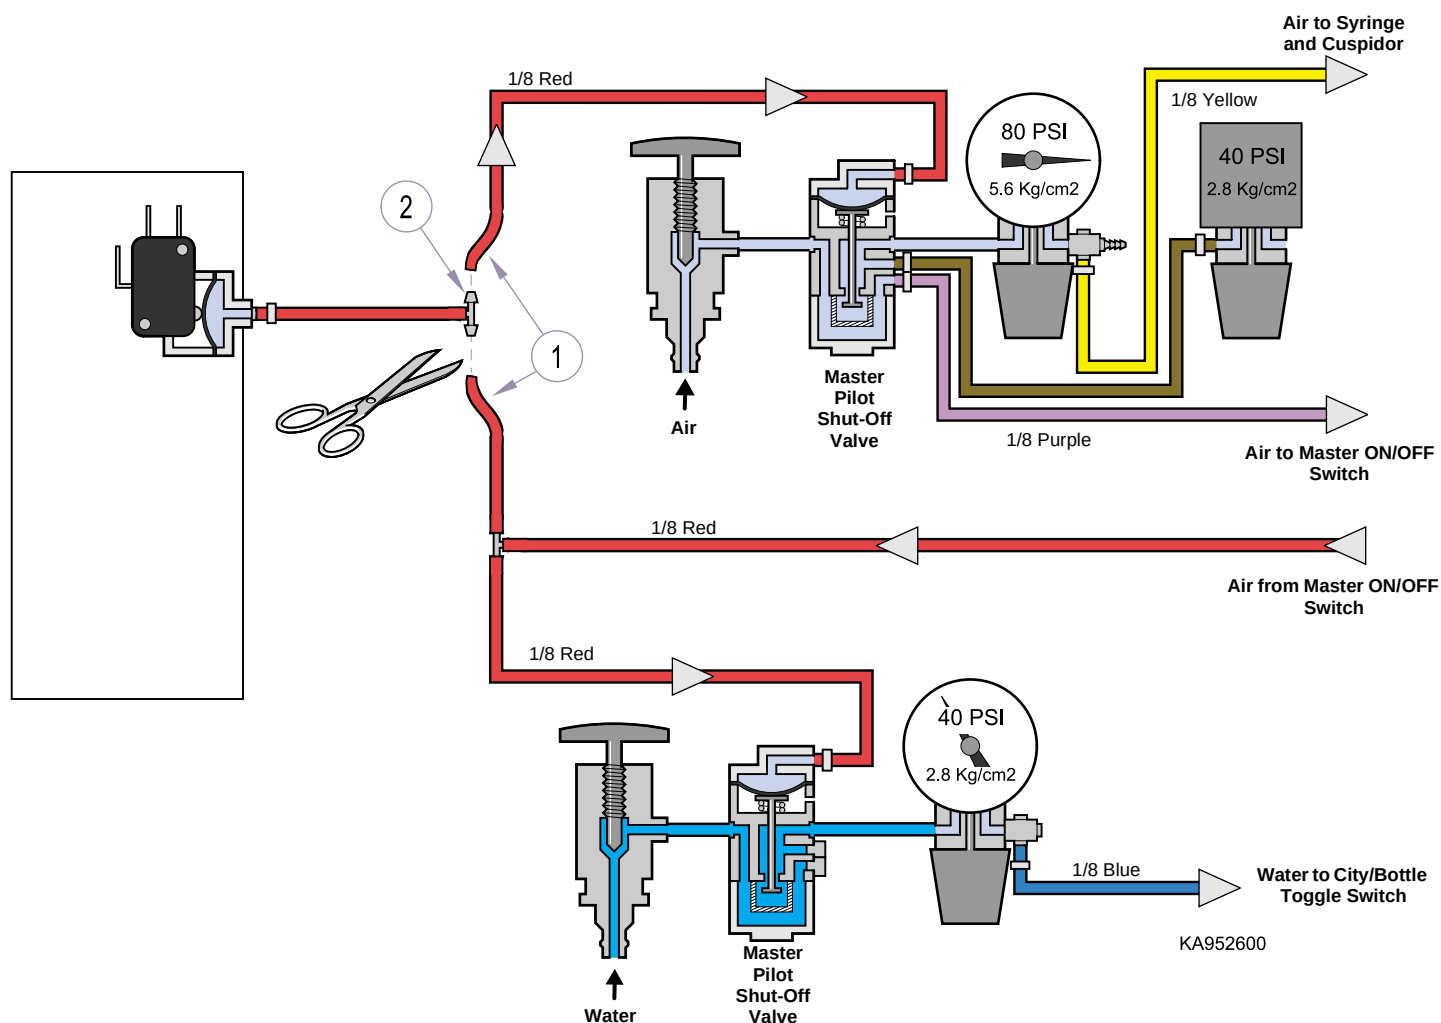

Figure 1. Tubing Connections
- (1) Cut 1/8 in. red tubing (1, Figure 1) *[between air and water master pilot shut-off valves]*; then connect both ends to tee fitting (2) *[1/8 in. red tubing from power supply]*.